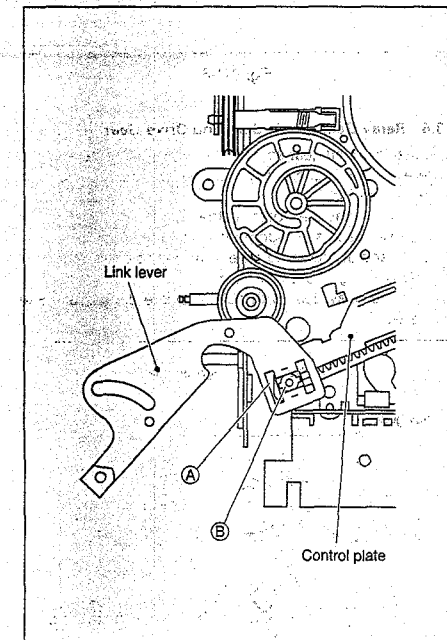

Fig. 2-3-5
(3) Insert section (A) of the link lever into section (B) of the control plate as shown in Fig. 2-3-5.